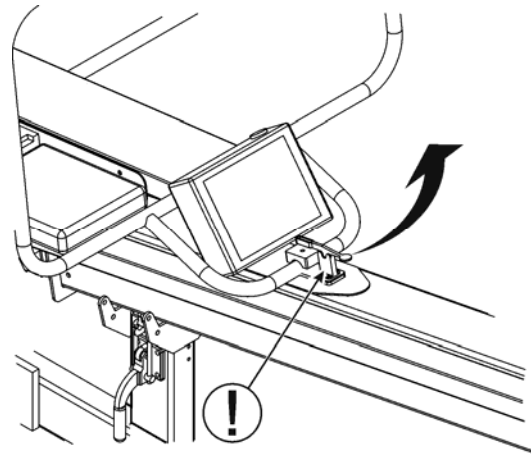

Figure 3-6. Platform Travel Latch
- ❑ Open the platform travel latch (Figure 3-6) and pivot the platform upright. Platform locking pins will engage in the pivot locking holes when the platform is in a full upright position. Verify that the platform is locked into place.